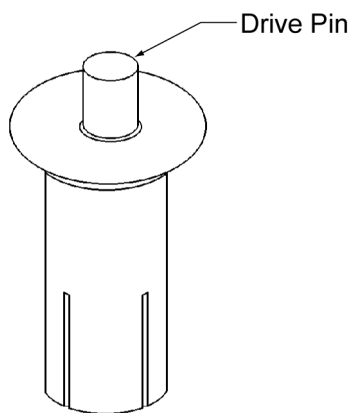

Figure 14
- 4.6.3 Attach the new lining to the backing plate with new screws and locknuts or drive pin rivets (See **Figure 14**), as applicable. Work from the center of the friction lining out to the ends. The rivets are installed by driving the pin flush with the head.